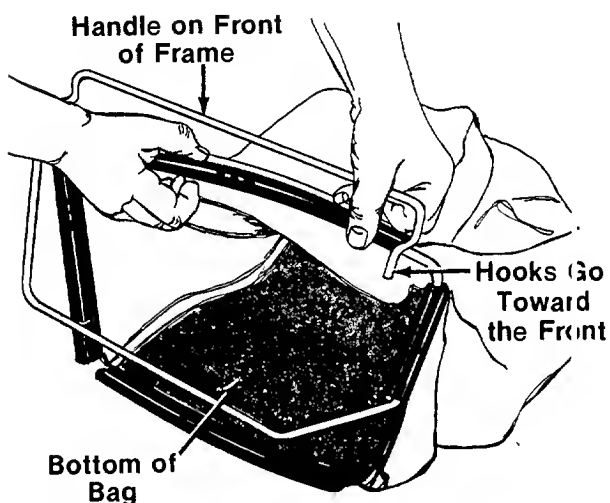

FIGURE 14.
1. Place bag over frame (black plastic side is the bottom of bag). Handle on frame goes to the top of bag. Hooks go toward the front. See figure 14.
2. Secure bag to frame by slipping plastic channels on bag over frame. See figure 14.